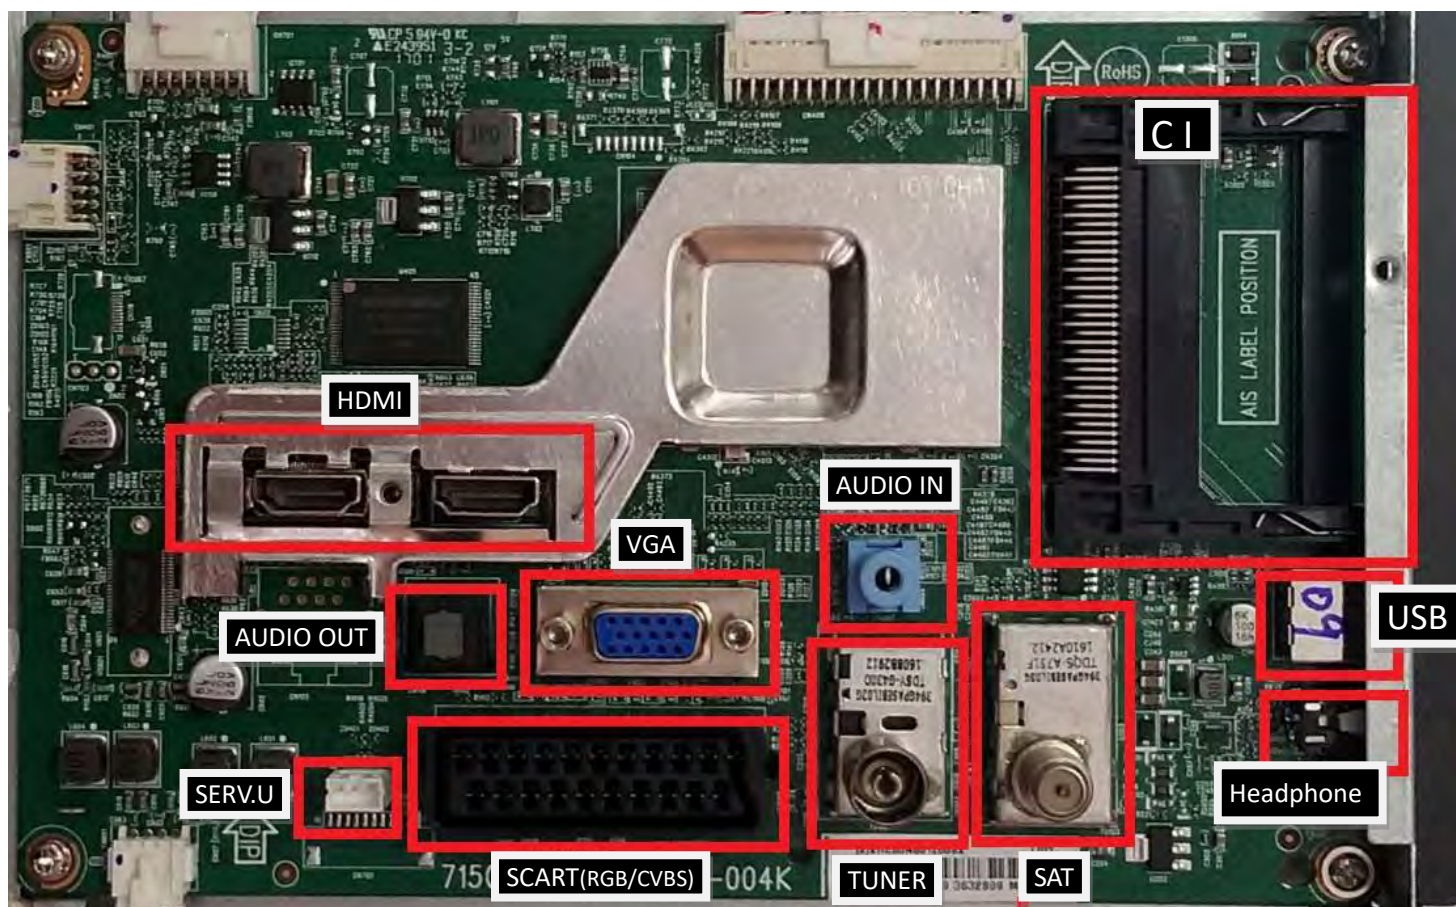

Figure 2-1 (24" 4022 series)
**Remarks:** Figure 2-1 apply to the 24PFS4022/12, but will be similar for other series models except for 4112 series.